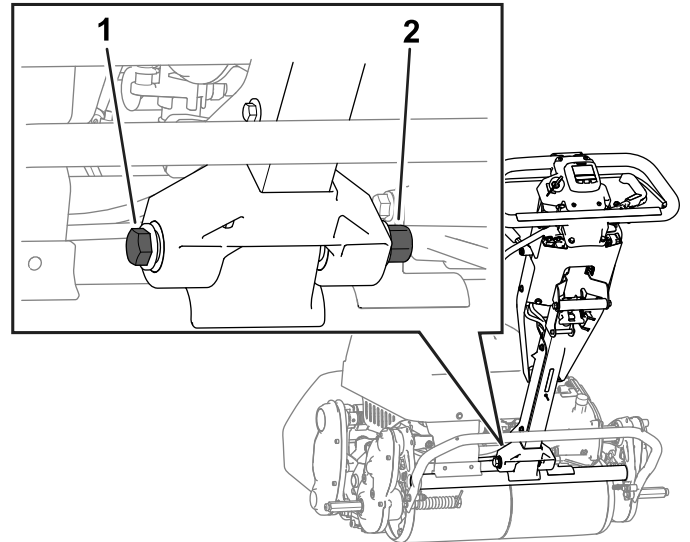

Figure 26
2. Loosen the bolt and nut as shown in Figure 26.